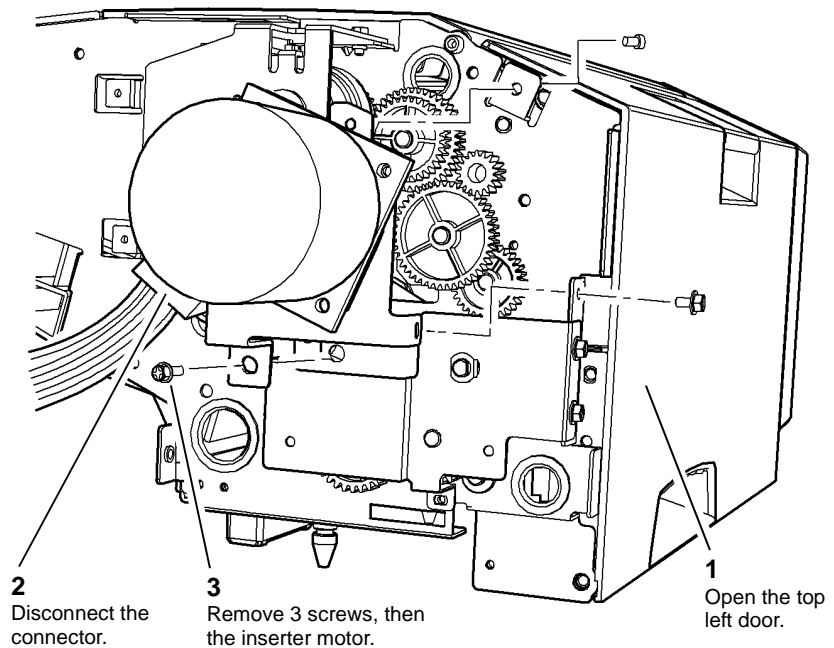

Figure 1 Inserter motor removal
2. Remove the inserter motor and bracket, Figure 1.